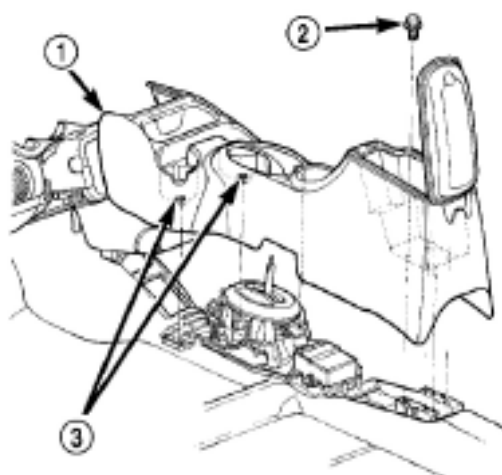

Figure 3-116 Disassembly/assembly of center console – typical
(7) Screw off 4 fixing nuts for support and floor (Figure 3-116).
(3) Remove the center console assembly (Figure 3-116).
(5) The gearshift and transaxle switching lever is of spring and self-aligning type. It is not necessary to align the pin which was used before and leave the gearshift and transaxle switching lever on neutral position. Make sure the shift lever is placed in proper position. When necessary, push the transmission to gear 3 and 4. The tightening torque of regulating bolt is 8Nm (70 in. lbs.). To screw down bolt, take care to prevent misalignment of the transmission mechanism.
(6) Assembly center console assembly (Figure 3-116).
(7) Mount the transmission dust cover/knob assembly on the shift lever and push down the knob to combine the spring, and then screw it in counterclockwise.
(8) Clamp the transmission dust cover clinch on the center console.